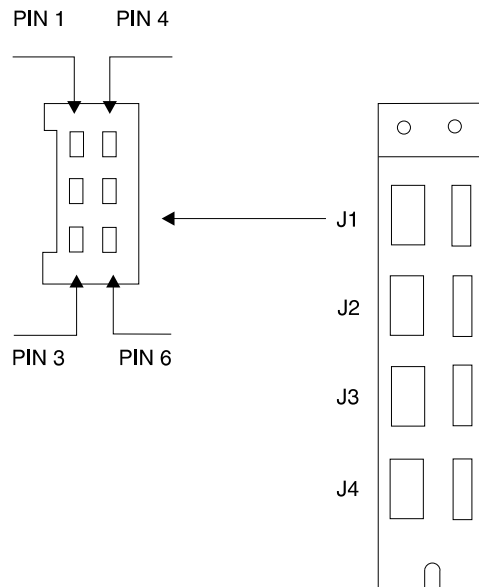

Figure 2-4. RPO Location 07R-A1
- Check for -28v between frame ground and the back of the host connector that initiated the command at RPO 01S Jx pins 1 and 5. See Figure 2-4 on page 2-9.